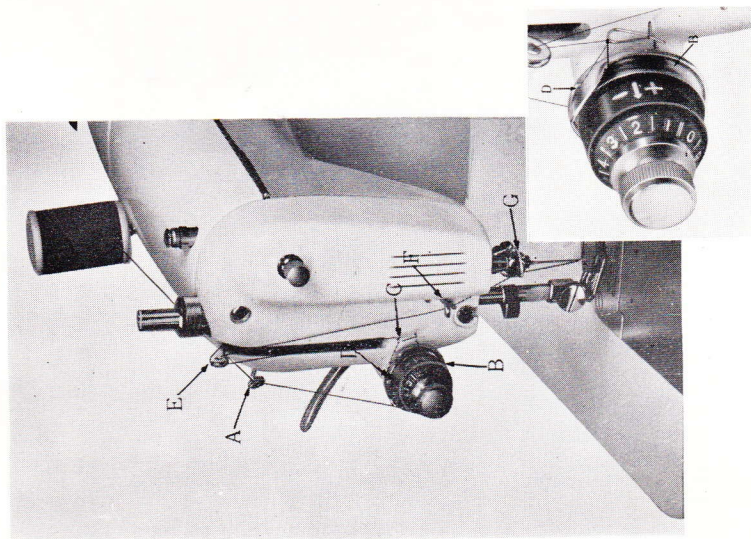

Fig. 8
- 2) Lead thread through upper thread guide (A) on back of face plate
- 3) Down and around tension discs (B) from back to front
- 4) Into check spring (C)
- 5) Then tug on thread to pull it into hook (D) (see insert, Fig. 8)
- 6) Up into take-up lever (E) from back to front
- 7) Down into thread guide (F) on face plate
- 8) Through the needle bar thread guide (G)